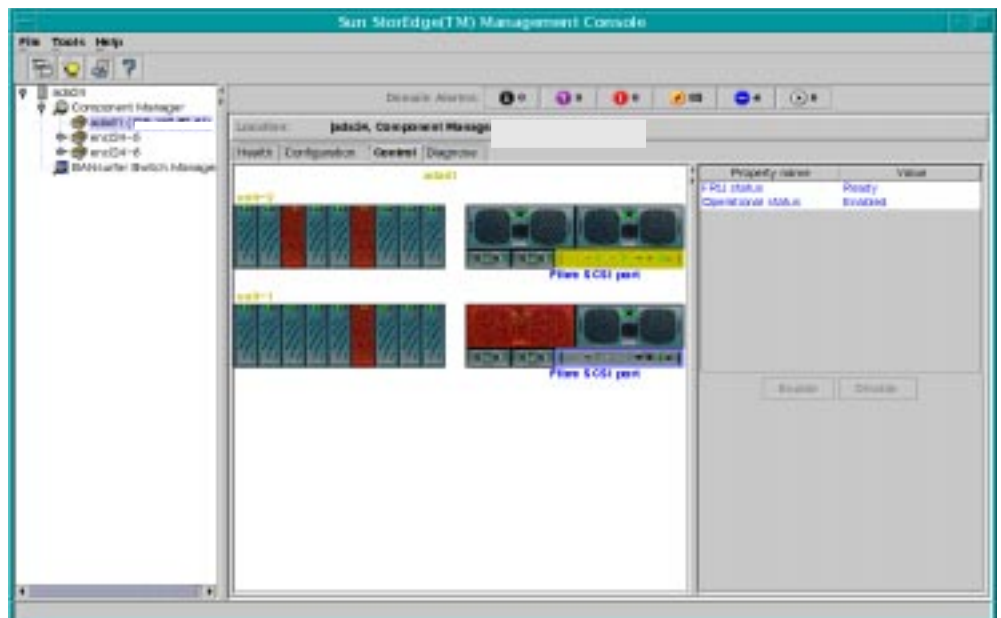

FIGURE 5-3 StorEdge T300 Controller Window
3. **Select the controller in the Physical Pane (see FIGURE 5-3).**